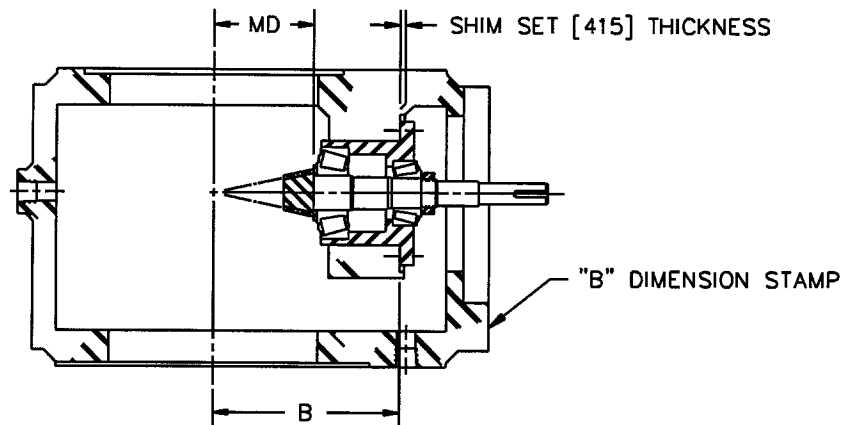

Figure 31: Shim Calculation
- B = Dimensional value marked on the motor end of the gear housing (Figures 31 and 33, pages 73 and 76)